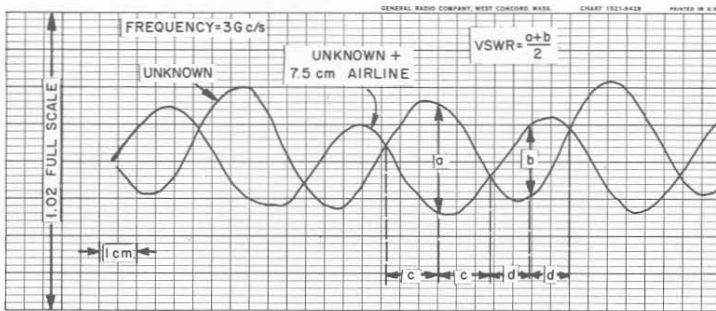

Figure 6. Multiple recording used in substitution - method VSWR measurement.
In the substitution method, a multiple plot is recorded, showing (1) the vswr of the unknown connected directly to the slotted line and (2) the vswr with the reference air line inserted between the unknown and the slotted line. (See Figure 6.) With the impedance transformation of a quarter-wave air-line section, the difference between the two curves represents twice the vswr of the unknown impedance with respect to the reference air line. The residual vswr of the slotted line effectively cancels out.